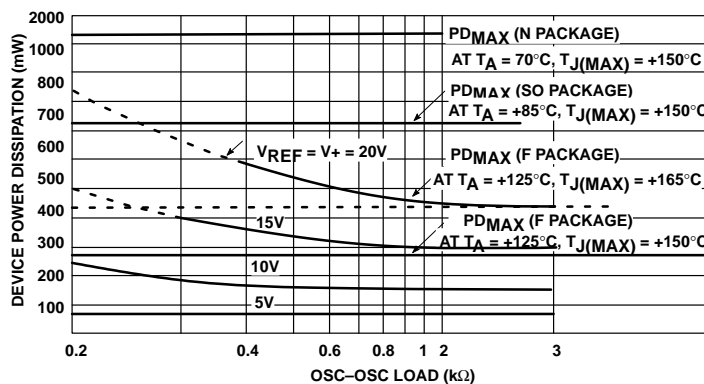

Figure 1. Device Power Dissipation vs OSC – \bar{OSC} Load at +25°C
1. For derating, see typical power dissipation versus load curves (Figure 1).